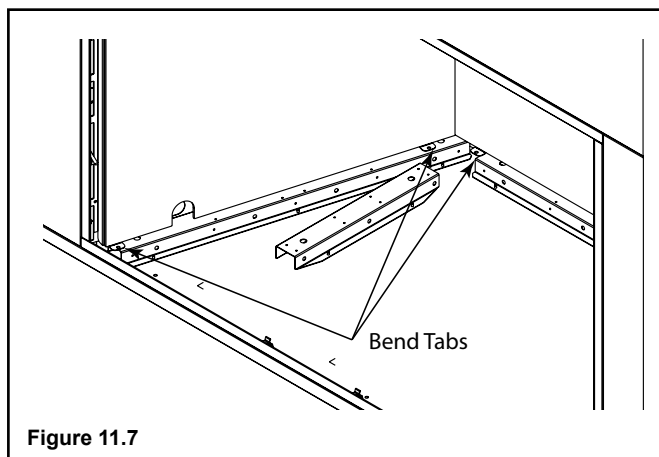

Figure 11.7
- Bend up (2) lower retaining tabs on rear refractory brackets, set the back glass panel on rear brackets,. See Figure 11.7. Bend down (2) upper retaining tabs to secure glass panel in place. Proper Back Glass Panel orientation shown below.
- Bend up (2) lower retaining tabs on left refractory brackets, set the left glass panel on left brackets. See Figure 11.7. Bend down (2) upper retaining tabs to secure glass panel in place.